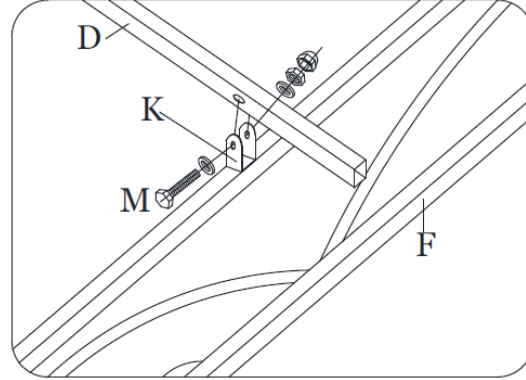

Figure 9
Step 3: Insert the “Push Button” end of the “Medium” Roof Support (D) into the Center Roof Connector (A) and attach to Long Cross-Beams (F) using Bolt, Washers, and Nut (M). See Figure 9.